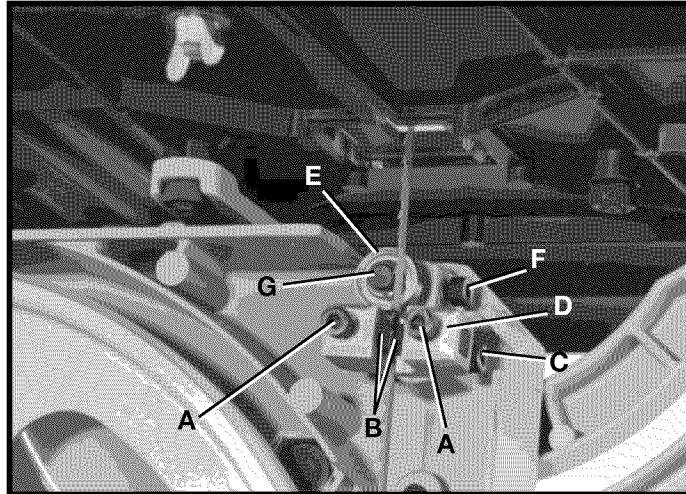

Fig. 29
2. Loosen two screws (A) Fig. 29, and move guides (B) as close as possible to the sides of the blade, being careful not to pinch the blade between the guides. Then tighten two screws (A).
3. The front edge of guide blocks (B) Fig. 29, should be adjusted so they are just behind the “gullets” of the blade teeth by loosening screw (C), and moving assembly (D) in or out as necessary. Then tighten screw (C).
4. The lower blade support bearing (E) Fig. 29, should be adjusted to support the rear of the blade during the cutting operation and also prevent the blade from being pushed too far to the rear which could damage the blade teeth. The support bearing (E) Fig. 29, should be set about 1/32" behind the blade by loosening screw (F) Fig. 29, and moving shaft (G) in or out. Then tighten screw (F).
5. The lower blade support bearing (E) Fig. 29, should also be adjusted so the back edge of the blade overlaps the outside diameter of the ball bearing by approximately 1/8". The blade support bearing (E) is set on an eccentric shaft. To change position of bearing (E), loosen screw (F) Fig. 29, and rotate shaft (G) Figs. 29 and 30, using a straight screwdriver until the blade properly overlaps the support bearing. Then tighten screw (F) Fig. 29.